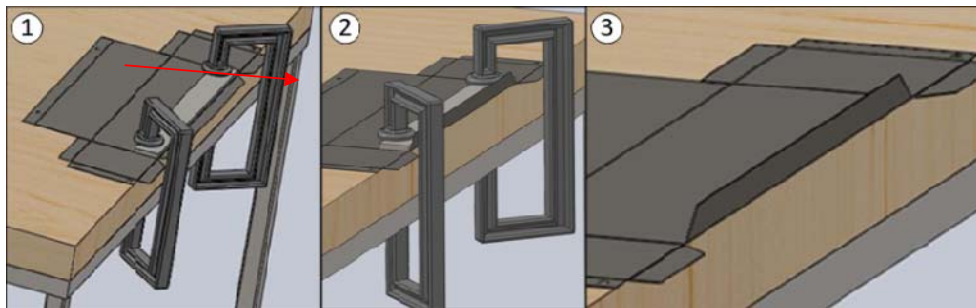

Figure 5: Bend #1- (1) Clamp Bending Bar down using Bar Clamps. (2) Bend flange up along 12" Bending Bar. (3) Finished work piece after Bend #1 is completed.
- C. Clamp the Bending Bar** in place using two **12" Bar Clamps** as shown in Figure 5.
Note: When placing the clamps, make sure to leave a gap between the the clamp and the edge of the bending bar. The clamp should not be hanging over the edge of the bending bar where the bend is to be made as shown in Figure 5 (1).
- D.** Bend the flange up as shown in Figure 5(2). Use your hands to gently bend up the entire flange at one time. If it is too hard to bend by hand, use a second bending bar to hold underneath and against the flange and use your hands to bend the flange upwards.